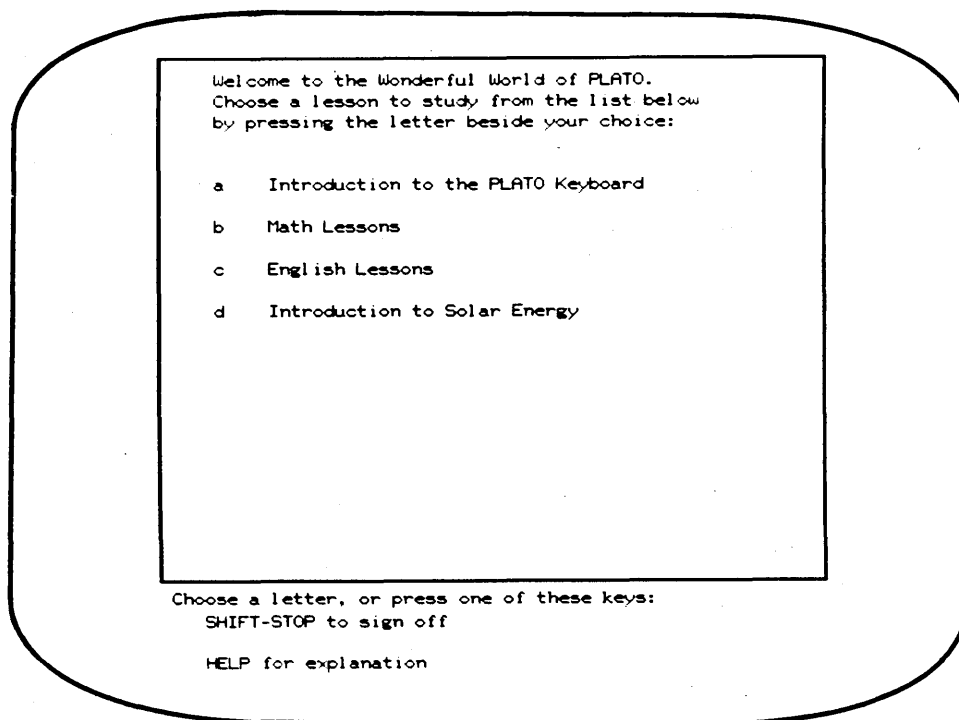

Figure 4-1. Example of Student Index Display
- If your instructor has set up your course, you may get an index of lessons from which to choose (figure 4-1), one lesson which you must choose, or your assigned PLATO lesson. Press HELP for an explanation of what to do and to find out about the PLATO bookmark.